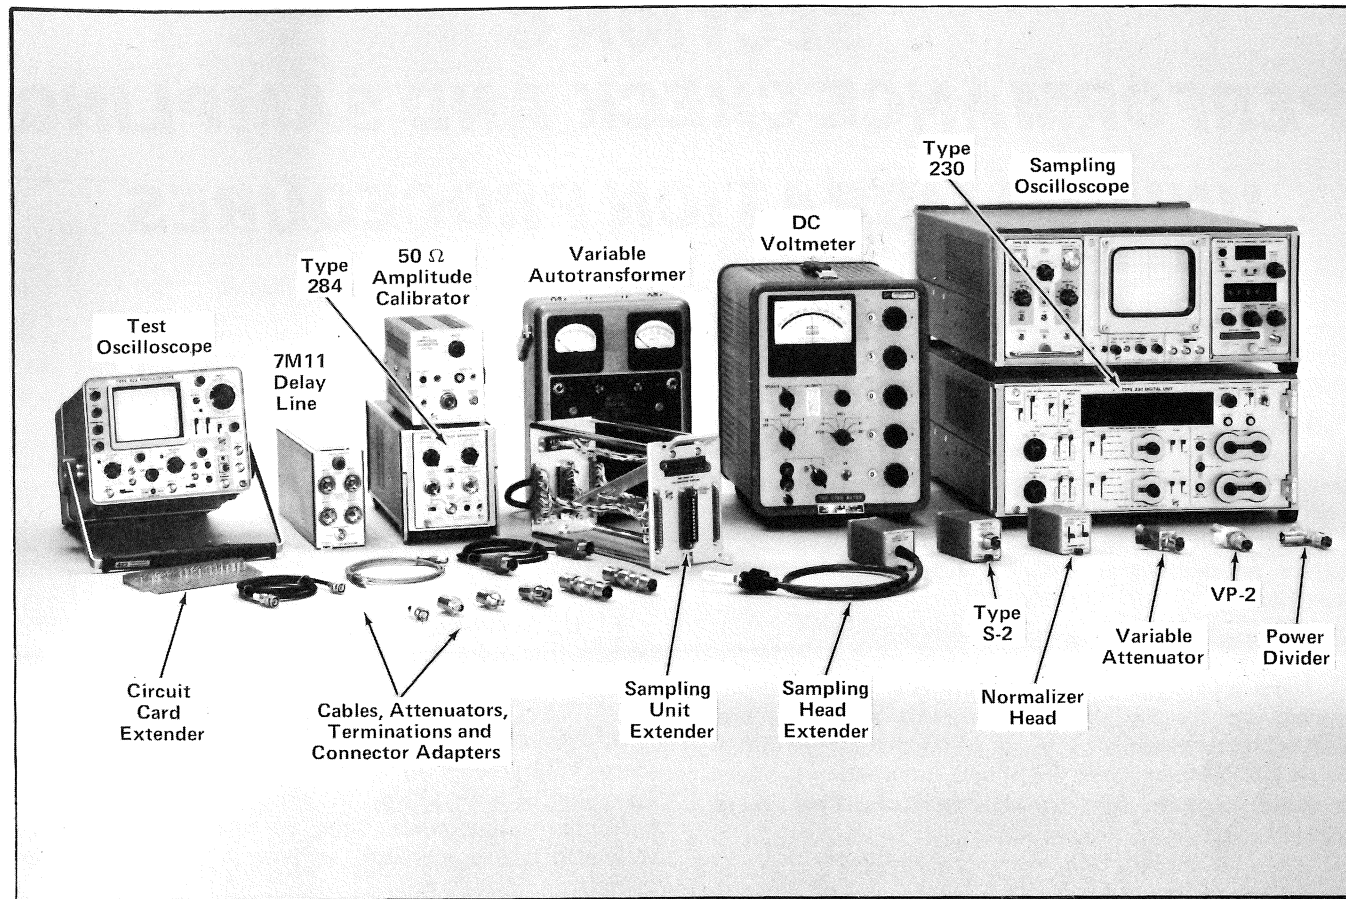

Fig. 6-1. Test equipment.
25.² Sampling head interconnection cable (Tektronix Part No. 012-0130-00). Required for use with Type 3S6 only. (Not shown in Fig. 6-1.)